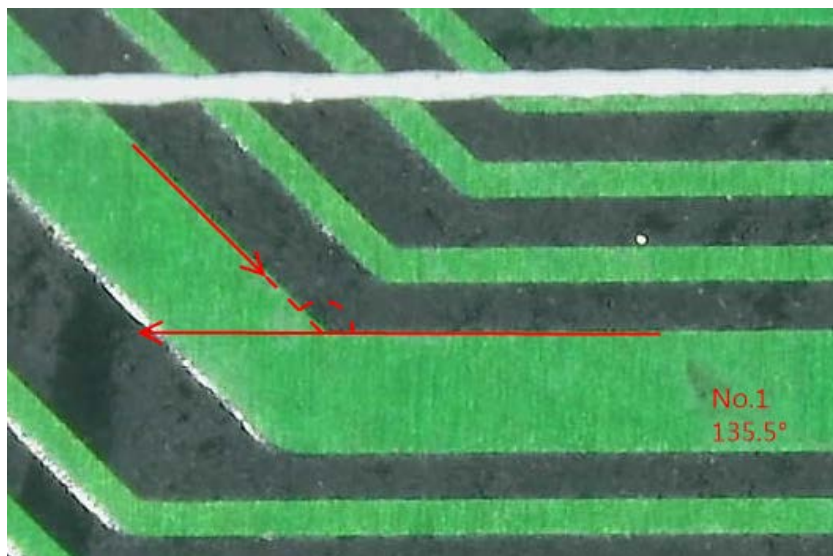
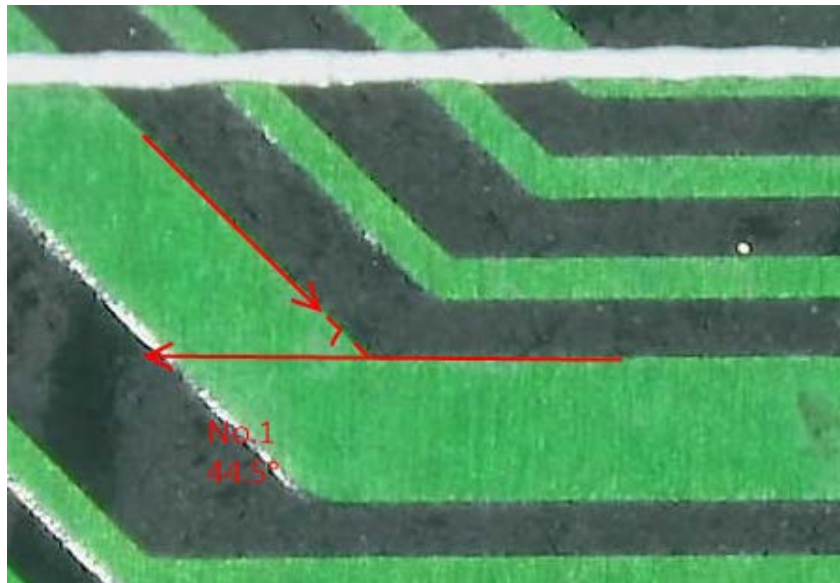

Fig 5-21 Measure 4 Point Angle
Fig 5-22 Measure Supplementary Angle
(12) 4 Point Angle : When measuring the angle that can apply  tool. As Fig. 5-21 shown, firstly draw a line segment on one side of Angle, then draw 2nd line segment on the other side of Angle, that can know the angle. The inner angle is Int.135°, the external angle is Ext.45°, the dotted Arc is the measured angle. Can also choose to show Reflex Angle  or Supplementary Angle . See Fig 5-22 & 5-23.